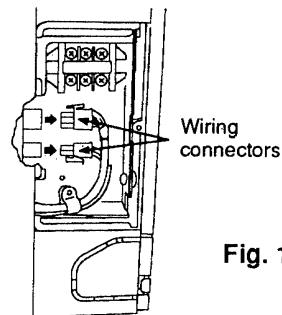

Fig. 1c
- c) Disconnect the 2 wiring connectors. (Fig. 1c)